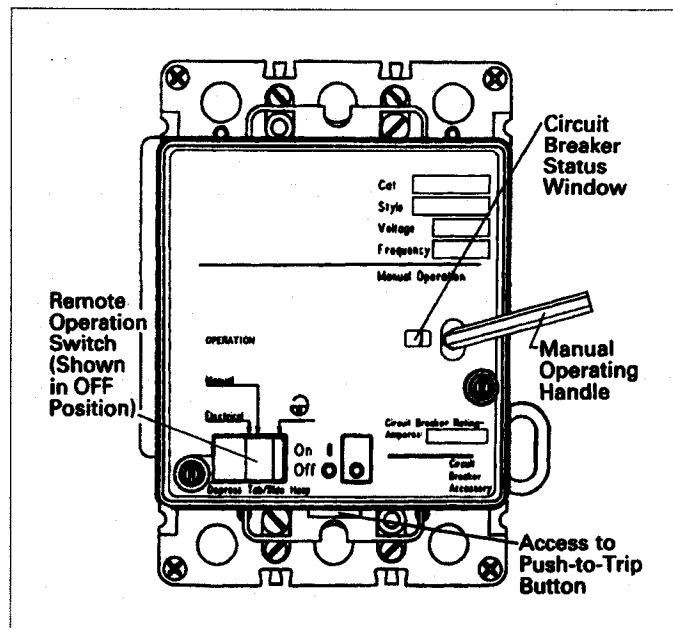

Fig. 3-1. Location of External Operating Devices
- 3-1. Slide OPERATION switch to the electrical position. (See Fig. 3-1.)
- 3-7. With a screwdriver, press the manual PUSH-TO-TRIP button on the circuit breaker. (See Fig. 3-1.) Verify that the circuit breaker moves to the TRIP position.
- 3-10. Slide the OPERATION switch to the manual position. (See Fig. 3-1.)
- 3-14. Slide the OPERATION switch to the padlock or OFF position. (See Fig. 3-1.)